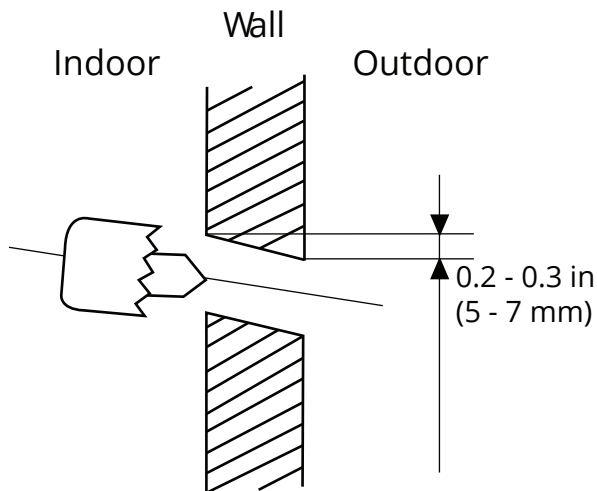

Fig.3.2
2. Using a core drill [3.5 in (76.2 mm) for 24K units, 2.5 in (65 mm) for all others], drill a hole in the wall. Make sure that the hole is drilled at a slight downward angle, so that the outdoor end of the hole is lower than the indoor end by about 0.2 to 0.275 in (5 mm-7 mm). This will ensure proper water drainage. (See **Fig. 3.2**)